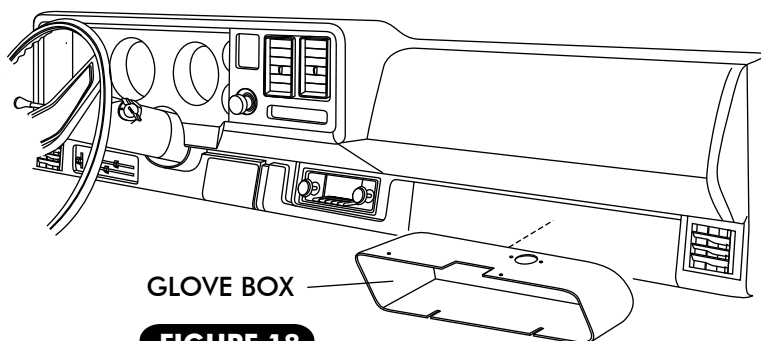

FIGURE 18
- ☐ INSTALL GLOVE BOX (SEE FIGURE 18)
- ☐ INSTALL GLOVE BOX PROVIDED, SECURE WITH OEM SCREWS THROUGH OEM HOLES. SEE FIGURE 18.